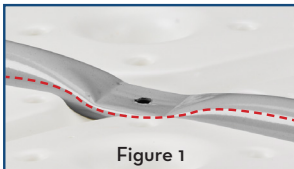
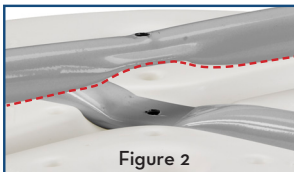

Figure 1
Figure 2
- A- Short Thumb Screw (5)
- B- Large Thumb Screw (4)
- C- Leg Receivers (2)
- D- Seat (1)
- E- Backrest Frame (2)
- F- Backrest (1)
- G- Legs (4)
3. Align the leg section that has the concave area on the underside with the holes in seat (Figure 1). Align the leg section that has the concave area on the top side with the leg section below (Figure 2).